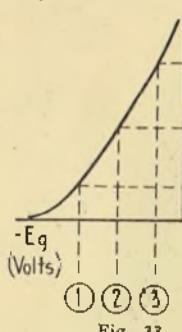

Fig. 33
If two things are related to each other in some way, perhaps the easiest way of describing the relationship is by drawing a graph which shows how one of the things varies when the other is altered. Take, for instance, a valve whose plate voltage is fixed. The other two operating quantities are the plate current and the grid voltage. In other words, if the plate voltage is fixed, we can vary the grid voltage, which will cause the plate current to vary. For every value of grid voltage there is a corresponding plate current that will flow. It is therefore possible to describe the behaviour of the valve completely for the given plate voltage by drawing a curve which shows how the plate current varies with variations of grid bias. Fig. 33 shows such a curve. It is
There are several points about the curve of Fig. 33 that are worth noting. First of all, the portion of the curve that applies to grid voltages between zero and some negative value (not specified on Fig. 33) is almost a straight line. That is to say, in this region, equal changes of grid voltage cause equal changes of plate current. This is most important, because it is only when this is true that the valve is able to
amplify without distorting the signal. We will have more to say about this in a later instalment, but even at this stage it is clear that the curves can give a very good indication of what will happen in a given circuit, for one of the things we are most interested in about amplifiers is the amount of distortion they cause. Now, on Fig. 33, negative grid volts are measured from the vertical line, to the left along
voltage. If Fig. 33 is examined, it will be seen that if the "curve" is a straight line, but not otherwise, the difference between the no-signal plate current and the maximum plate current will be equal to the difference between the no-signal plate current and the minimum plate current. If there is any curvature in the "curve," these plate current differences will not be equal, and distortion is indicated. It is even possible to estimate the amount of such distortion in some cases through the use of a simple formula. Fig. 33 is drawn to illustrate an actual valve, which in practice never has an exactly straight-line curve.
plate current is in finding the mutual conductance of the valve if this figure is not quoted in the data book, or if a figure is required for conditions other than those for which the mutual conductance is given. Suppose that the change of bias in going from position (2) on Fig. 33 to position (3) is exactly one volt and that the plate current (2) is 4 ma. and the plate current (3) is 6.5 ma. In this case, a change of grid bias of one volt causes a plate current change of 2.5 ma. The plate current change is therefore 2.5 ma. for each volt of grid-voltage change, or, in other words, 2.5 ma. per volt, and this is the mutual conductance of the valve between points (2) and (3) on the curve. Commercial valve-testers use the same principle for actually measuring the mutual conductance of the valve. Here the grid voltage is actually changed by one volt, and the change in plate current is read on a meter, thus giving the required answer, directly in millamps per volt.
In the whole of this discussion, we have assumed that the plate voltage was fixed. However, it is possible to vary this as well as the grid voltage, so that the question crops up, "How does the curve given in Fig. 33 make allowance for changes in plate voltage?" The answer is that it does not. In other words, a single curve is not all that we need to display the operation of the valve under any conditions of plate voltage and grid voltage. The single curve of Fig. 33 tells us what happens under any conditions of grid voltage only for one particular plate voltage.